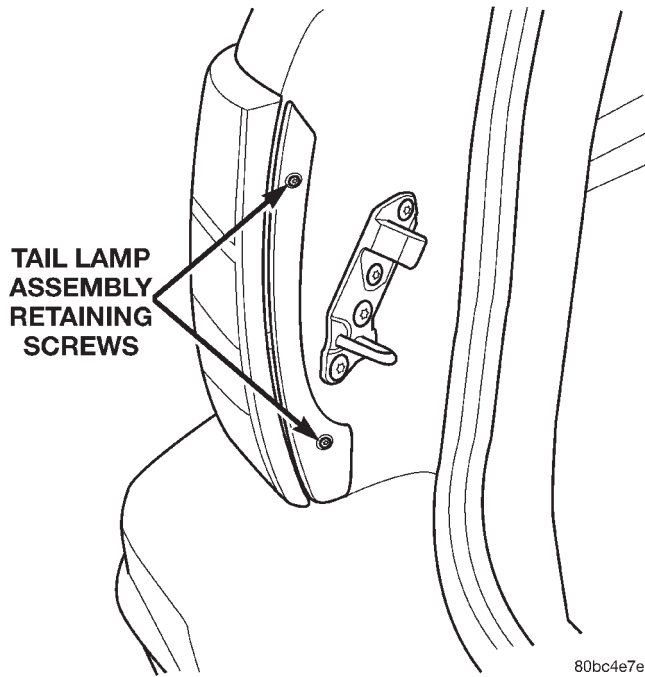

Fig. 11 Tail Lamp Retaining Screws
(1) Open the liftgate and remove the (2) tail lamp retaining screws (Fig. 11).